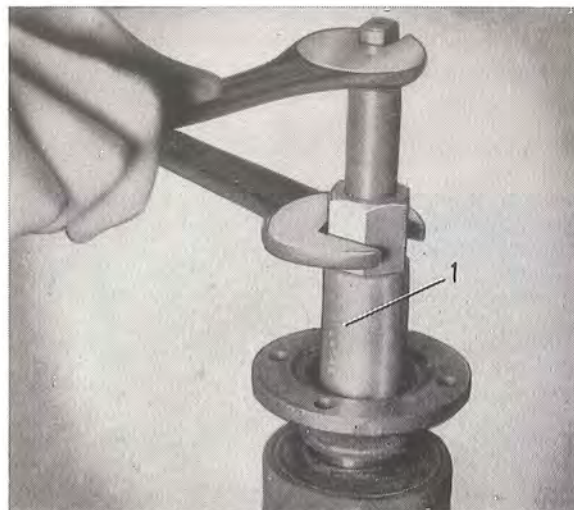

Fig. 4-138. Fitting the flange
4. Press on the flange with the help of press tool SVO 1845, see Fig. 4-138. Fit the washer and nut.